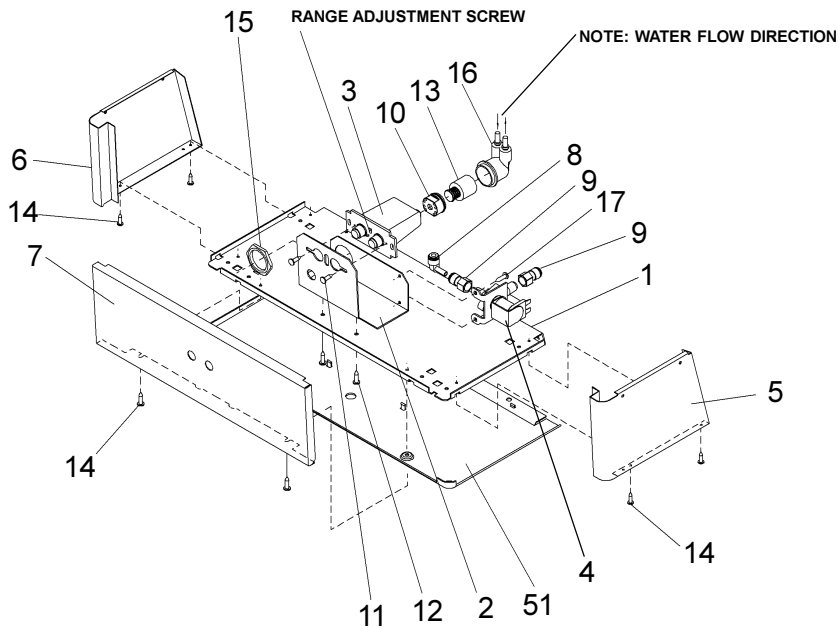

FIG. 3
**See Fig. 3 (on Page 3)
- Using a small tip screwdriver, rotate range adjustment screw clockwise to increase range and counter-clockwise to decrease range. (See Fig. 3).
- Stream height is factory set at 45-50 PSI. If supply pressure varies greatly from this, readjust stream height to approximately 1-1/2" (38mm) above the bubbler guard by turning adjustment screw, accessible by removing front panel, Item No. 7 (see Fig. 3 & 5).
- Replace the front panel and secure by retightening four (4) screws.